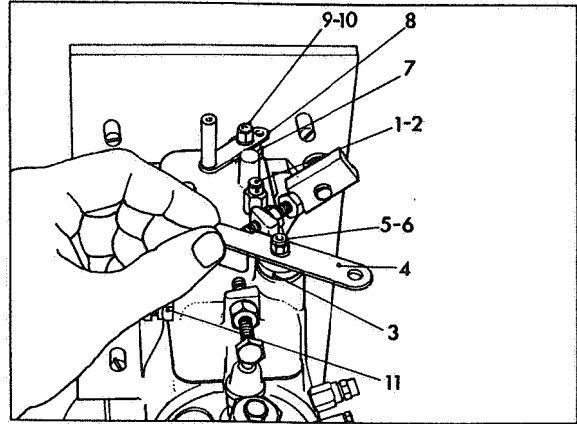

Fig 100 Fitting throttle arm
Assemble cover stud washers and cover stud nuts (1 & 2) Fig 100 and tighten. Assemble throttle dust cap (3), throttle arm (4), throttle lever washer (5) and screw on the throttle lever nut (6). Assemble shut-off dust cap (7) shut-off lever (8), shut-off lever washer (9) and screw on the shut-off lever nut (10). Assemble vent screw assembly (11) and tighten all nuts to correct torque values.